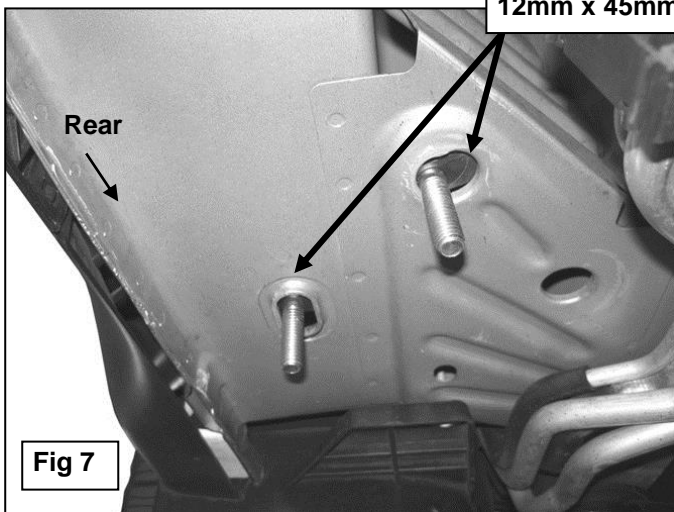

Fig 7
5. Move toward the rear of the vehicle and locate the round or oval hole centered in the bottom of the floor panel as described in **Step 2**, (**Figures 7 & 8**).
- 07-09** vehicles are equipped with an oval hole in the center of the floor panel as described in **Step 2a**. Insert (1) 12mm x 45mm Bolt Plate into the oval hole in the center of the floor panel and turn 90-degees across the oval hole, (**Figure 7**).
6. Next, locate the large hole slightly in toward the center of the vehicle from the previously installed Bolt Plate. **NOTE:** Use the passenger side Rear Bracket to determine the correct mounting hole to use. Insert (1) 12mm x 45mm Bolt Plate into the factory hole, (**Figures 7 & 8**). **NOTE:** Do not center the Bolt Plate in the hole, the shorter end of the Bolt Plate should be pushed to one side of the factory hole in order to fully engage.